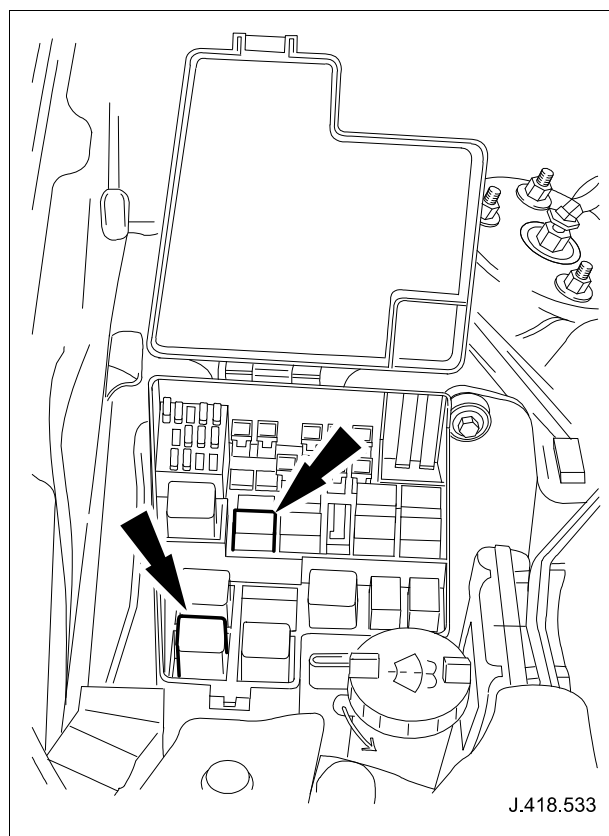

Fig. 21
- 4.9 Check the PCM relay base connections (relays number 4 and 14 in engine compartment fuse box) are pushed fully home and are not damaged i.e. bent/backed-out. Where available, utilize opposing pins from the harness repair kit and insert into populated pins to ensure a good/tight fit is achieved. (See Fig. 21)